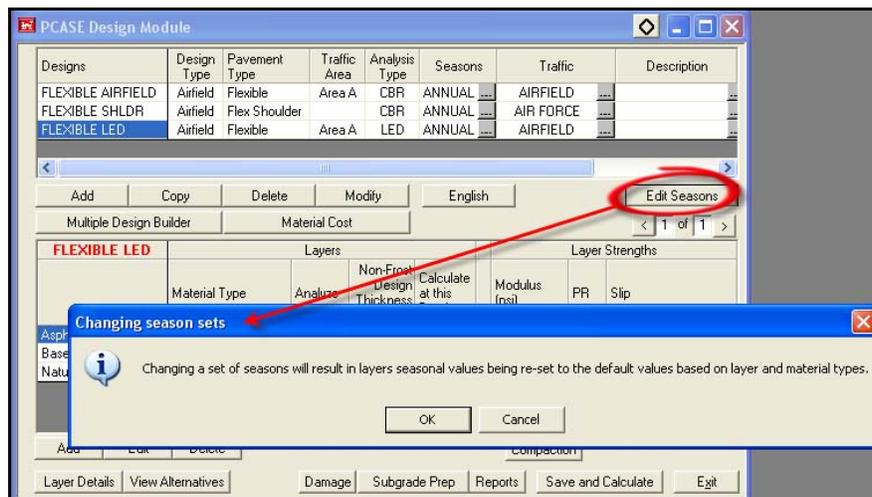
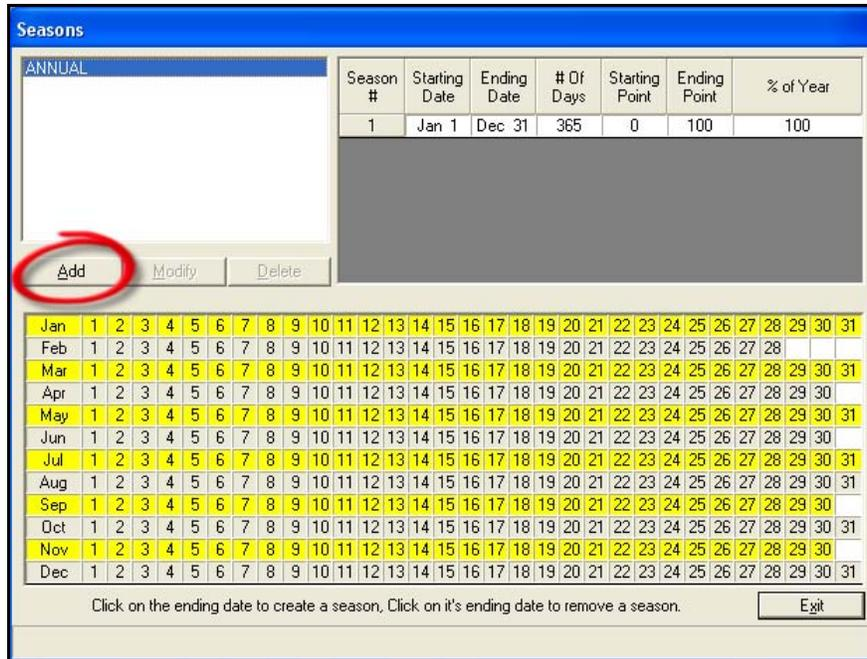

Figure 4-14. Creating Season Sets for Layered Elastic Designs
Figure 4-15. Add Seasons Window for Creating LED Season Sets
- (1) Go to the Seasons form by clicking the **Edit Seasons** button located on the right side of design window under the design grid. A dialog box will display indicating that your values (e.g., modulus, Poisson’s ration) will be reset to the defaults (Figure 4-14).
- (2) Click **Ok**; you will be entering new values for each season.
- (3) On the Seasons window, click the **Add** button to build a new season set (Figure 4-15).